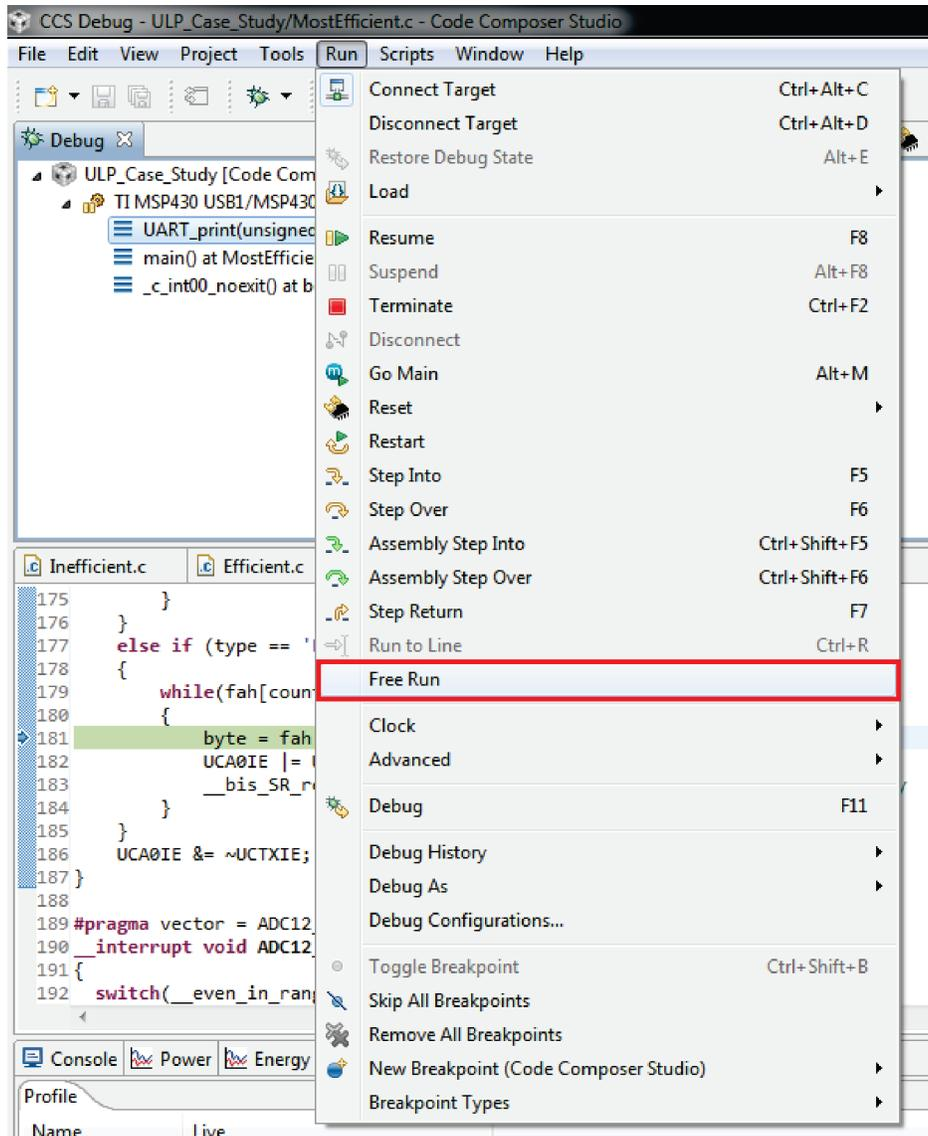

Figure 29. Free Run
4. Now instead of pressing the resume button, go to *Run* → *Free Run* (see Figure 29). This removes any interference from the debugger.